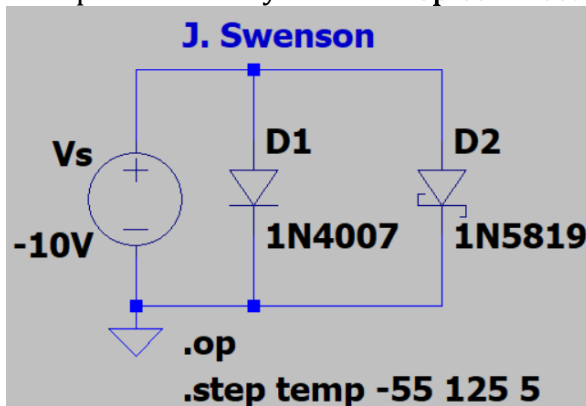

Figure 4: LTspice Diode Leakage Current Simulation Circuit.
12. Connect up the circuit illustrated below in **Figure 4** with the voltage source V_s set to -10 V in order to reverse bias the two diodes. Note: Change the previous `.dc Vs -1 1 0.001` statement an `.op` operating point statement and add the `.step temp -55 125 5` parameter sweep statement by means of **Spice Directive**.